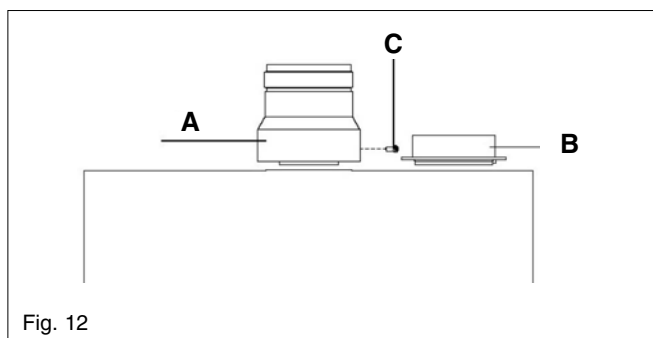

Fig. 12
4.5.3.1 INSTALLATION OF TWIN ADAPTOR KIT (fig. 12 & 13)
- Insert the exhaust connection manifold (A) onto the appliance flue outlet.
- Remove the blanking plate (located to the right of the appliance flue outlet) and – using the same screws – install the air inlet plate (B).
- Using the hole in the exhaust connection manifold as a guide, drill a 3mm hole in the appliance flue spigot and secure the exhaust manifold connection to the flue spigot using the screw provided (C).